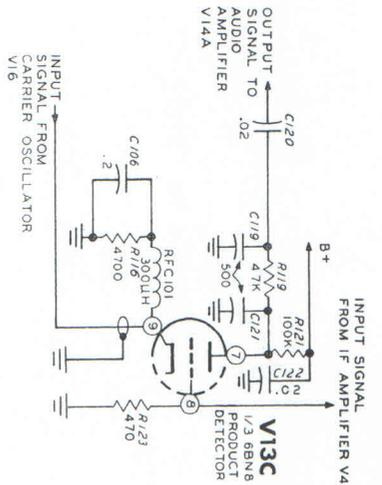

Figure 2-25
**PRODUCT DETECTOR (Figure 2-25)**